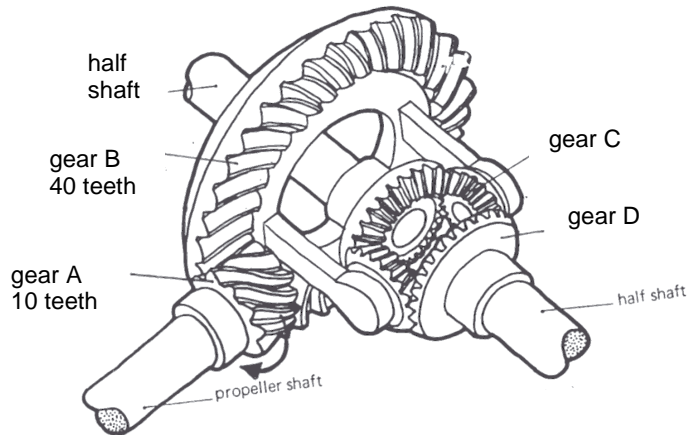

Fig. 5
- 4 Fig. 5 shows the final stage of transmission and speed reduction inside the differential gearbox in a full size car.